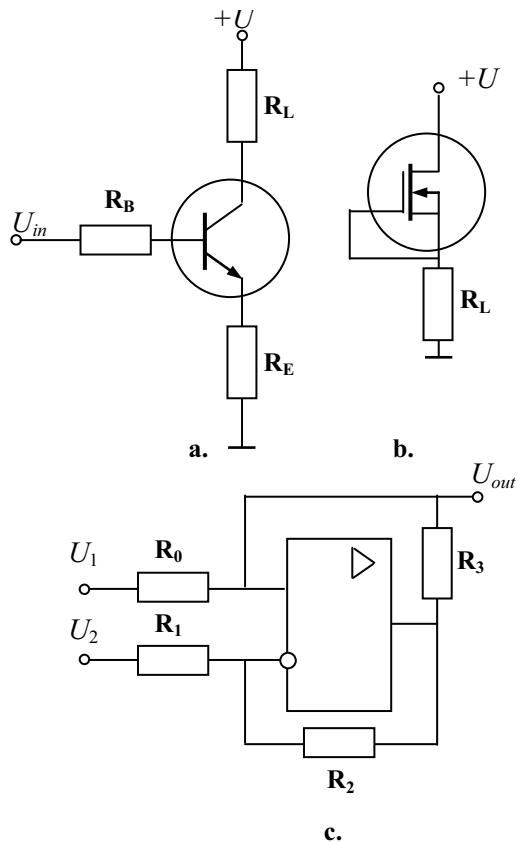

Fig. 2.24
**Current sources.** Fig. 2.24,a shows the current source built on the BJT. Let  $R_L$  be the load resistor connected to the collector. While  $U_{in}$  is constant, the emitter voltage is calculated as follows:
The MOSFET connected as given in Fig. 2.24,b is the current source also, because the load current of the resistor  $\mathbf{R}_L$  does not depend on  $U_{DS}$  in the saturation mode.
The simple current source in Fig. 2.24,c consists of the op amp with the pair of the feedback loops. In the symmetrical circuit ( $R_0R_2 = R_1R_3$ ) the load current is calculated as follows: